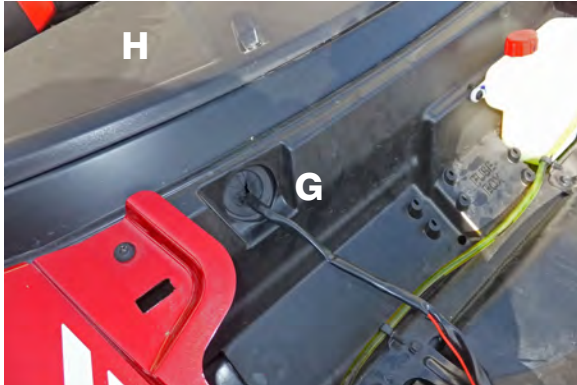

Figure 13.
16. Route switch wiring behind front dash and through a wiring grommet located behind the glove box. See grommet (G) located in **Figure 13**. You may remove the top access panel (H) to aid in routing and securing wiring.